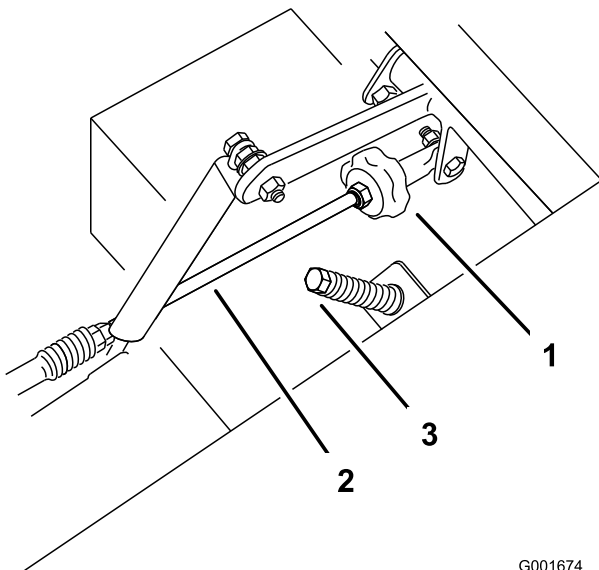

Figure 53
2. Adjust the pump rod length by rotating the knob, in the appropriate direction, until the wheel is still or slightly creeping in reverse (Figure 53).